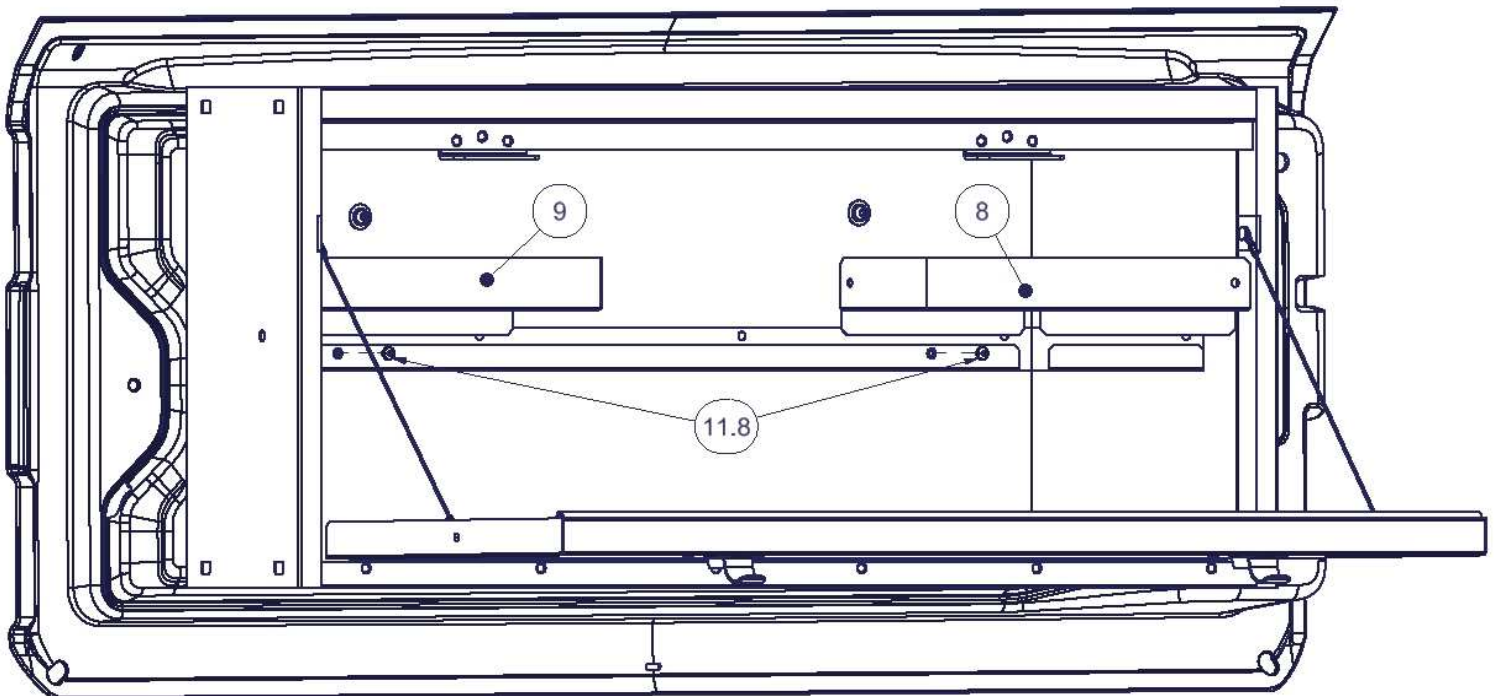

Figure 5
8. Install the removable shelves (#8 and #9) by placing the short flanges into the slotted rail that lines the back of the Lockbox. The (2) #11.8 Screws may then be installed and tightened to hold the trays in place during travel. See Figure 5.